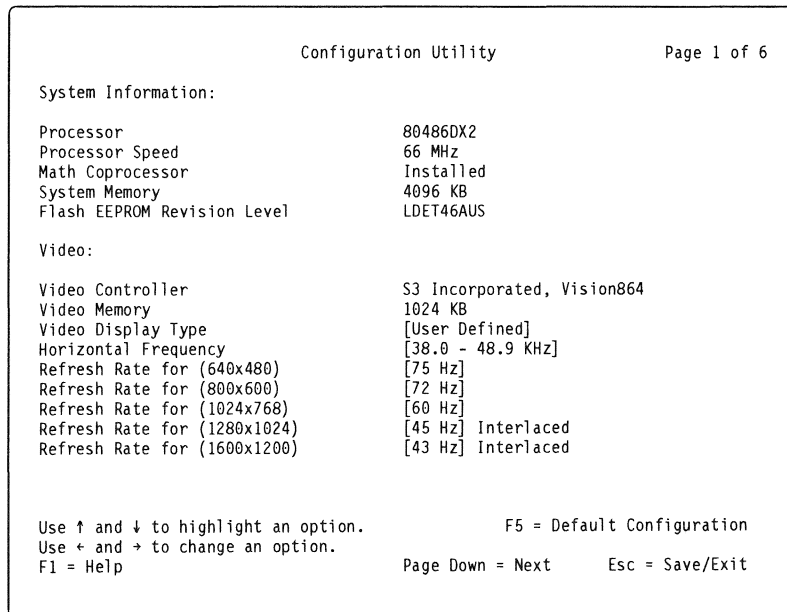

Figure 4-3. Sample Page 1 of the Configuration Utility Screens
As Figure 4-3 shows, the System Information section is on page 1 of the Configuration Utility screens. This section includes information about the processor, processor speed, system memory, and the revision level of Flash EEPROM (electrically-erasable programmable read-only memory) located on the system board. If a math coprocessor is installed, this page also indicates that. The Configuration Utility program changes the information in this section automatically after you add or remove options or install updates to the Flash EEPROM located on the system board.
- Video** Page 1 of the Configuration Utility screens (see Figure 4-3), provides information related to the type of video controller and display you have. Page 1 also provides options for you to change the video refresh rates for varying screen resolutions.